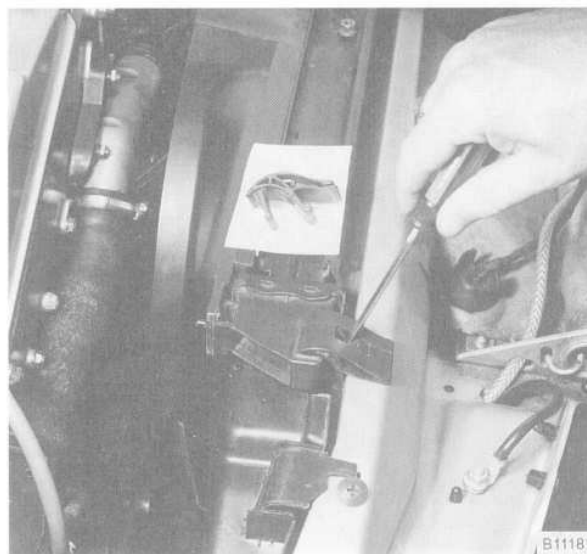

Fig. 19. Radiator retaining clip being removed. Push down and pull screwdriver forward to release clip.
8. Pry out radiator retaining clips from top of radiator. See Fig. 19.